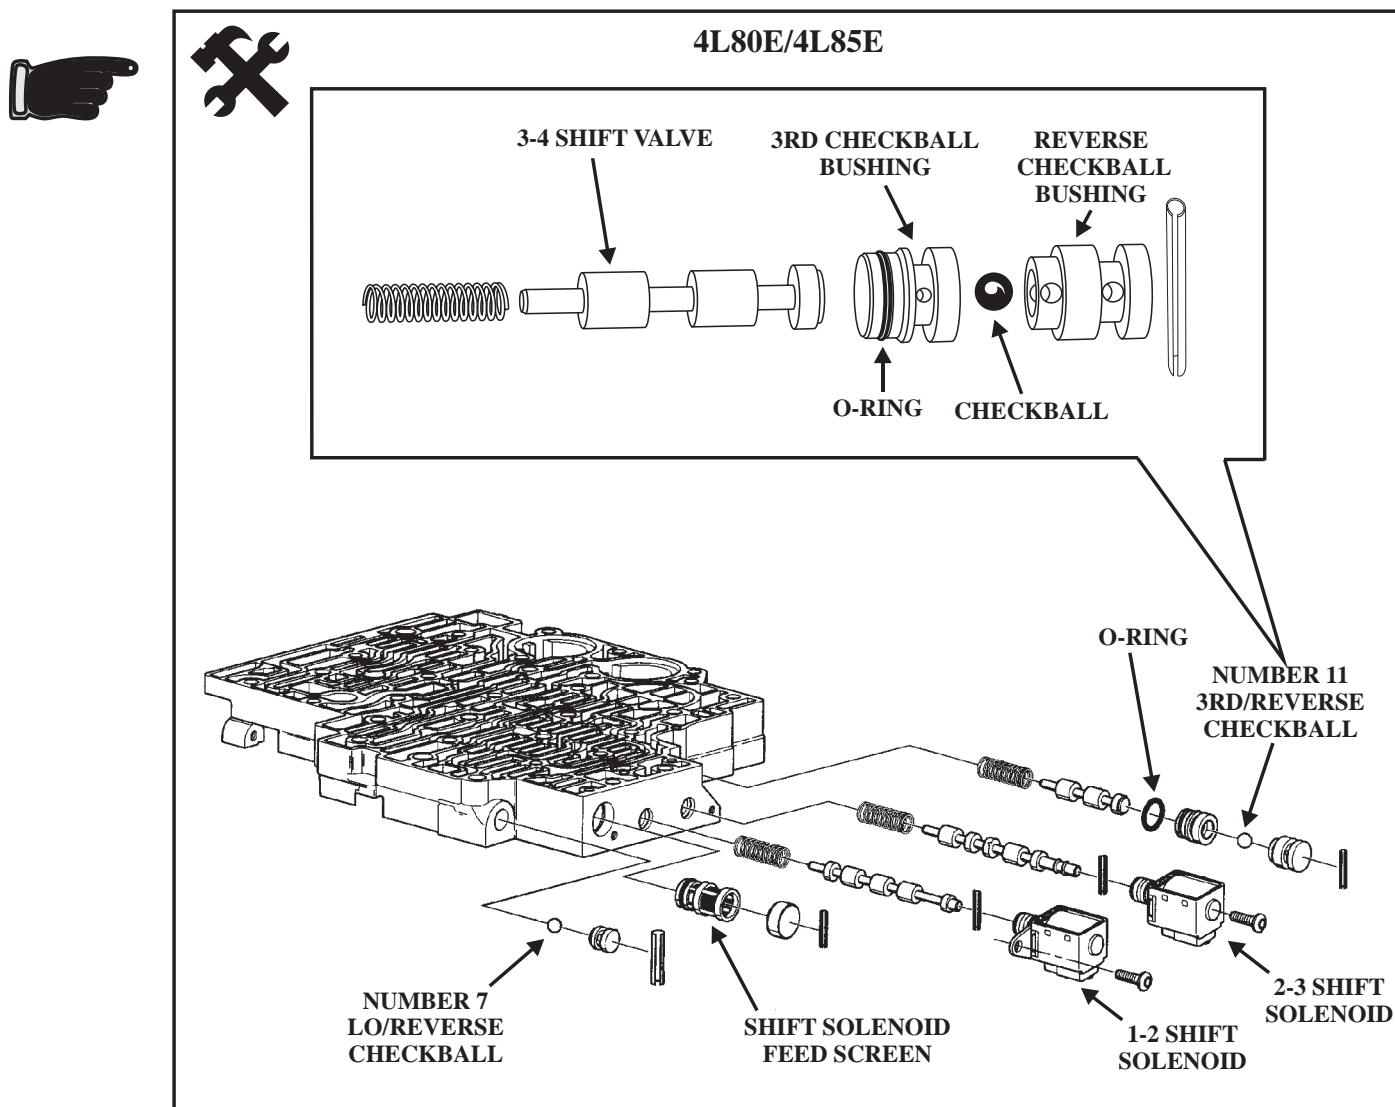

Figure 137
- Make certain the #11 check ball plug is free of trash, replace the o-ring and install the roll pin in the correct location, (Refer to Figure 137).